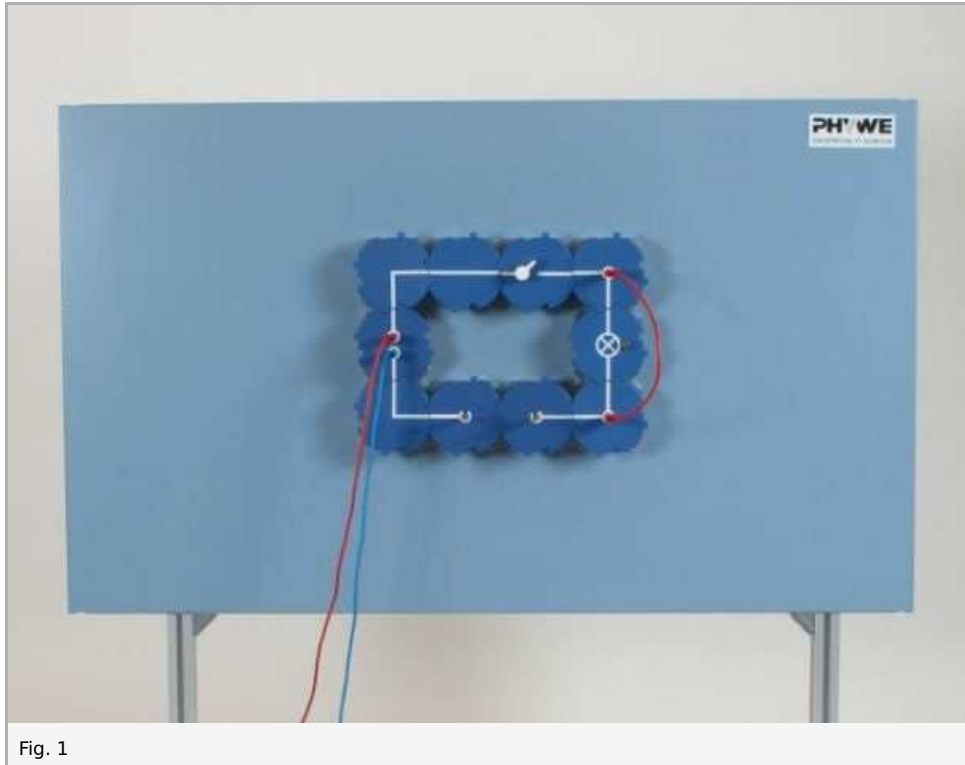

Fig. 1
- Connect up the circuit as shown in Fig. 1; clamp the iron wire between the crocodile clips on the connecting plugs; the switch is open.
- Close the switch and observe the lamp (1).
- Use the short connecting cable to bridge the lamp, i.e. to cause a short circuit; observe the lamp and the iron wire (2).